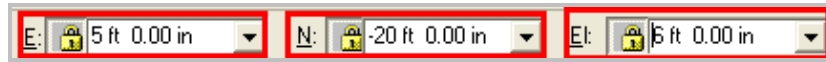

Figure 13: Specifying the Coordinates of the Cylinder
13. Key in **5 ft** for **E**, **-20 ft** for **N**, **6 ft** for **El** on the **PinPoint** ribbon to specify the position of the cylinder to be placed, as shown in Figure 13.